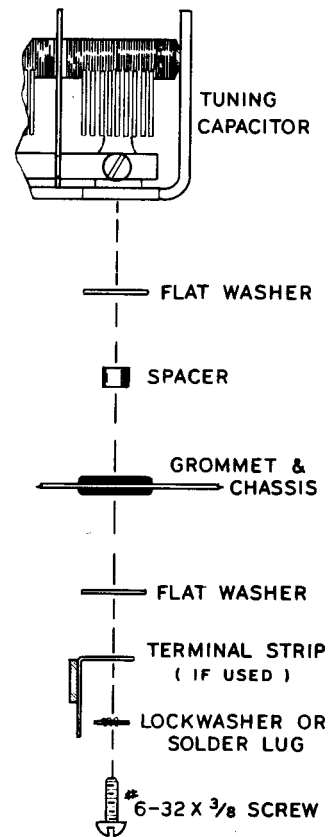

Figure 4
- ( ) Mount the tuning capacitor HH as in Pictorial 2. Use 6-32 x 3/8 screws, large flat washers, 3/16" spacers and solder lugs on the two holes nearest the chassis edge. A 2-lug terminal strip EE, lockwasher, flat washer and 3/16" spacer are used at the third hole. Refer to Pictorial 1 and Figure 4.